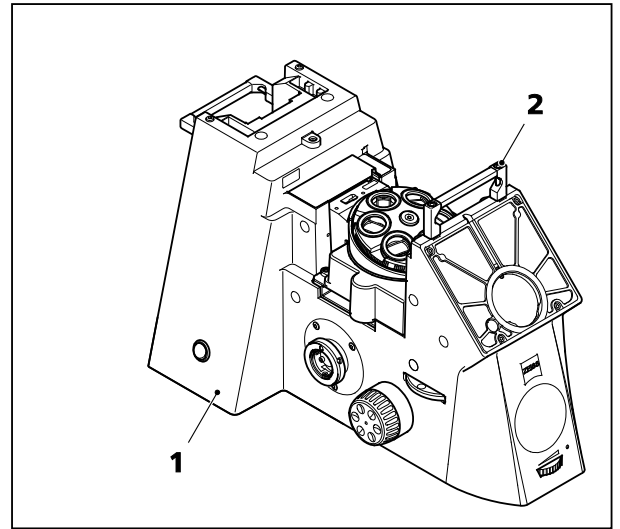

Fig. 13 Installing the microscope
- Place the stand (Fig. 13/1) on a flat, low-vibration work surface.
- Unscrew and remove the transport handle (Fig. 13/2) using the 4 mm Allen key.